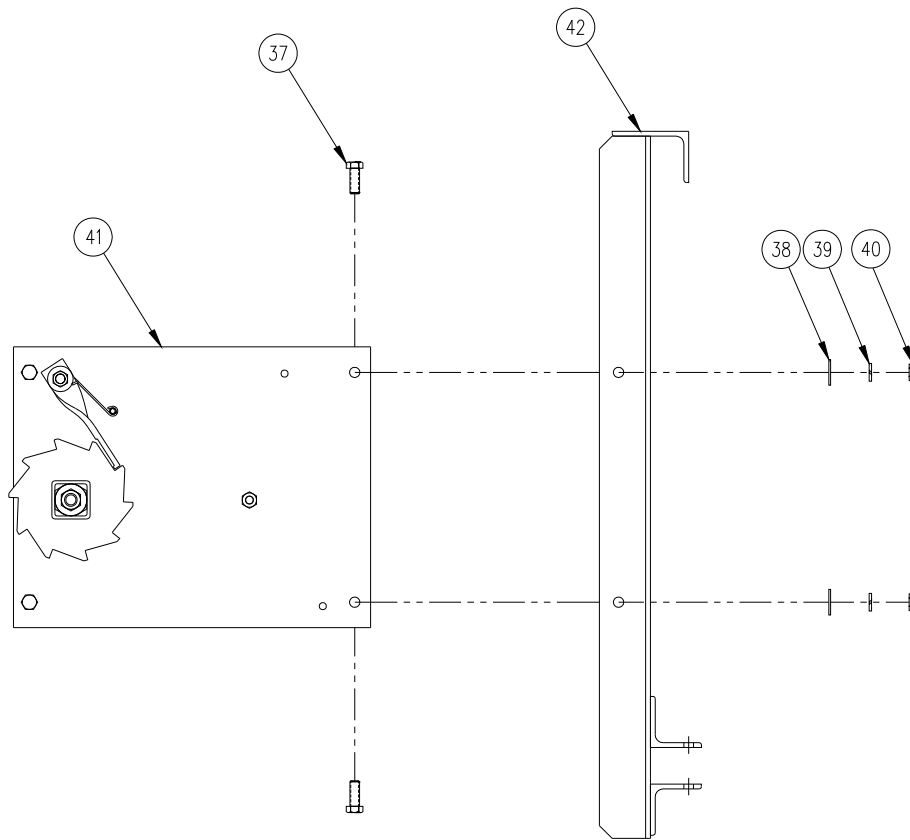

Fig. 3.2
2. Refer to figure 3.2 to assemble the Handihoist winch section to the frame section.